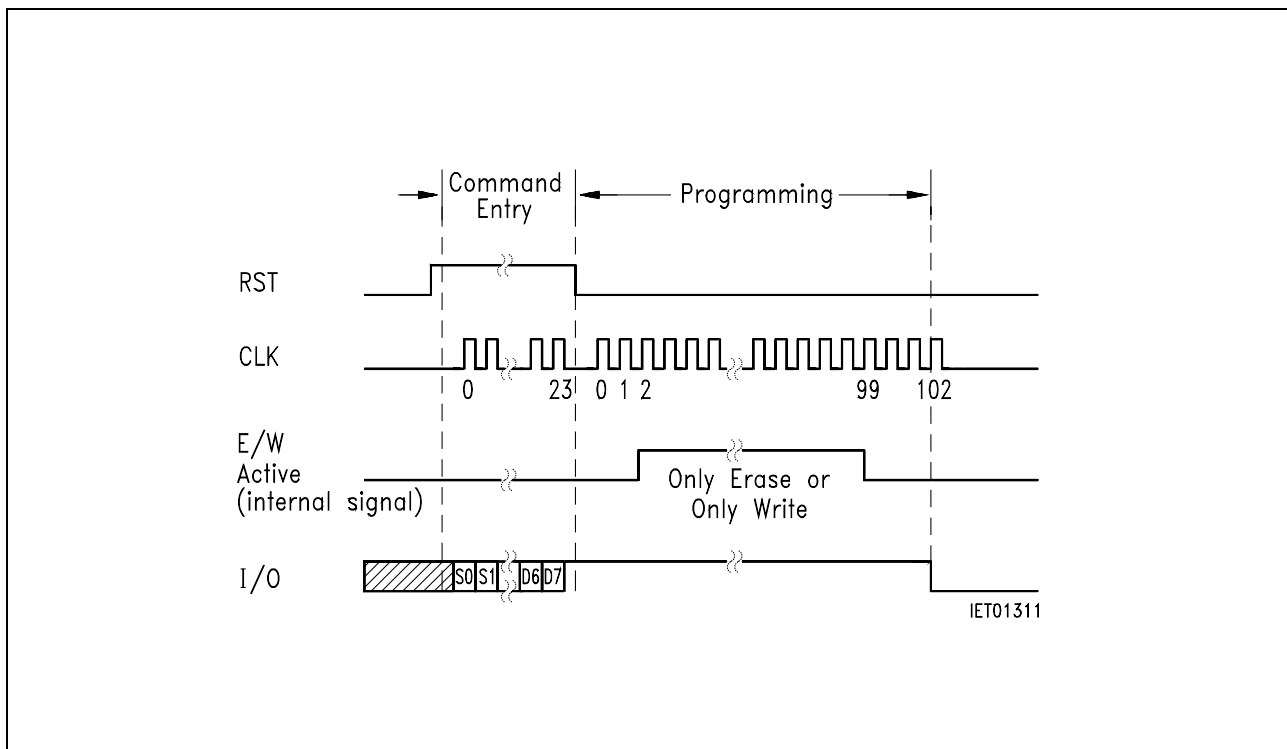

Figure 6
- Write only: This procedure is suitable if single bits of one byte shall be changed only from "1" to "0". (duration 103 clock pulses, $f \leq 20$ kHz) **(Fig.6)**
- Erase only (= FF; duration 103 clock pulses, $f \leq 20$ kHz) **(Fig.6)**.